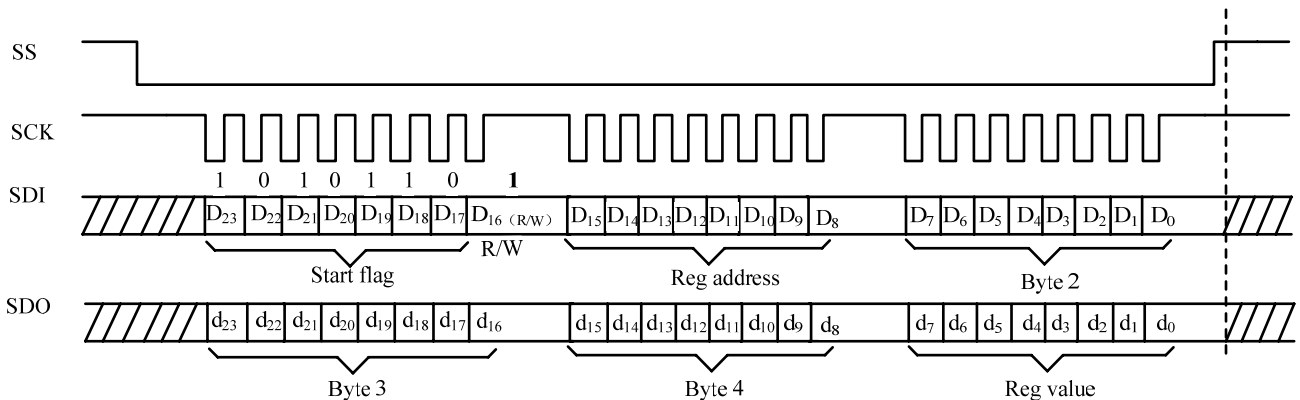

Figure 8 SPI Read Internal Register
Register read packet is shown in Figure 8. First, the SPI master sends Start flag (1010110) and R/W (1) bit followed with a Reg address, and then BF6921A will send Reg value corresponding to specified Reg address on the SDO line. Byte 2, Byte 3, Byte 4, will also be sent in read mode (R/W=1), but they are insignificant.